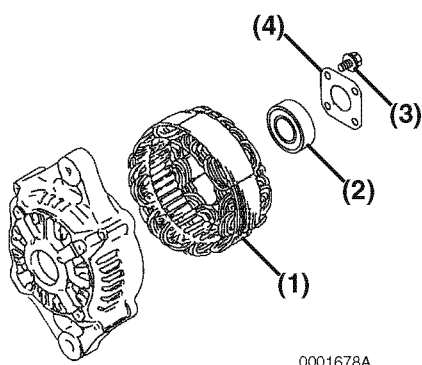

Figure 11-28
2. If removed, lubricate the outside diameter of a new front frame housing bearing. Press the bearing (**Figure 11-28, (2)**) into the front frame housing. Install the plate (**Figure 11-28, (4)**) to the front housing. Tighten the four bolts (**Figure 11-28, (3)**).
3. Position the stator assembly (**Figure 11-28, (1)**) on the front frame housing studs.